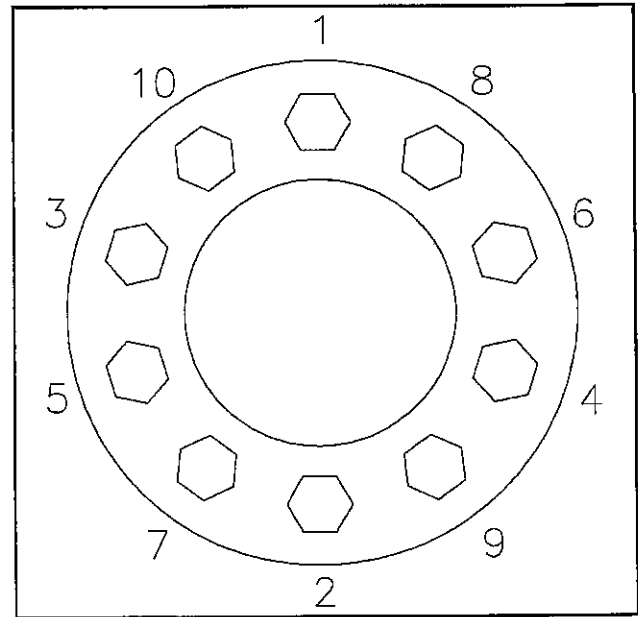

Figure 4-14 Stud Tightening Sequence
c. For **ball seat mounted wheels** only, install the inner capnuts on the studs and tighten to fifty foot-pounds using the sequence illustrated in Figure 4-14. Make certain that the left-handed threads are installed on the driver side of the vehicle and the right-handed threads are installed on the curbside of the vehicle.
d. Tighten the inner capnuts to full torque of 450 to 500 foot-pounds using the same sequence in Figure 4-14.
g. Install the outer capnuts (ball seat) or flange nut (pilot mount) and tighten to 50 foot-pounds using the sequence in Figure 4-14. Then tighten to full torque of 450 to 500 foot-pounds for ball seat and 500 to 550 foot-pounds for pilot mount, using the same sequence.